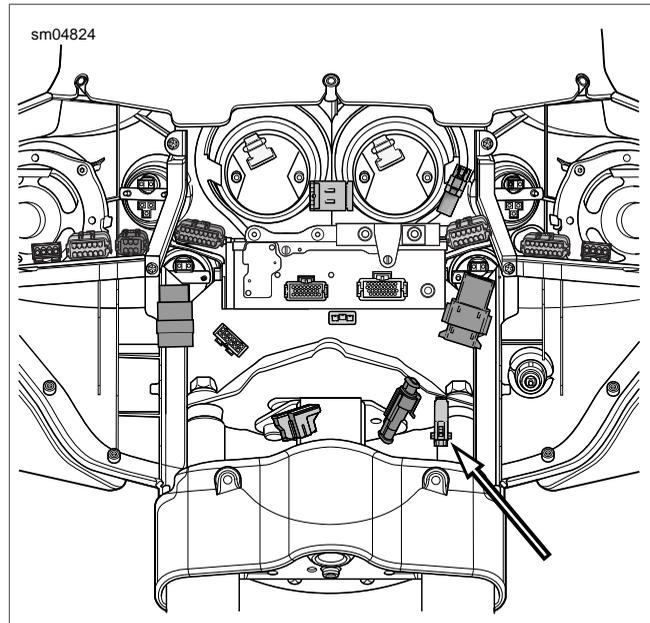

Figure 2-163. Front Fender Tip Lamp Jumper Harness Connector (FLHT/C/U)
2. **FLHT/C/U:** Reaching in below the fairing cap on the left side of the steering head, disconnect front fender tip lamp jumper harness connector [32], 2-place Multilock. See Figure 2-163.